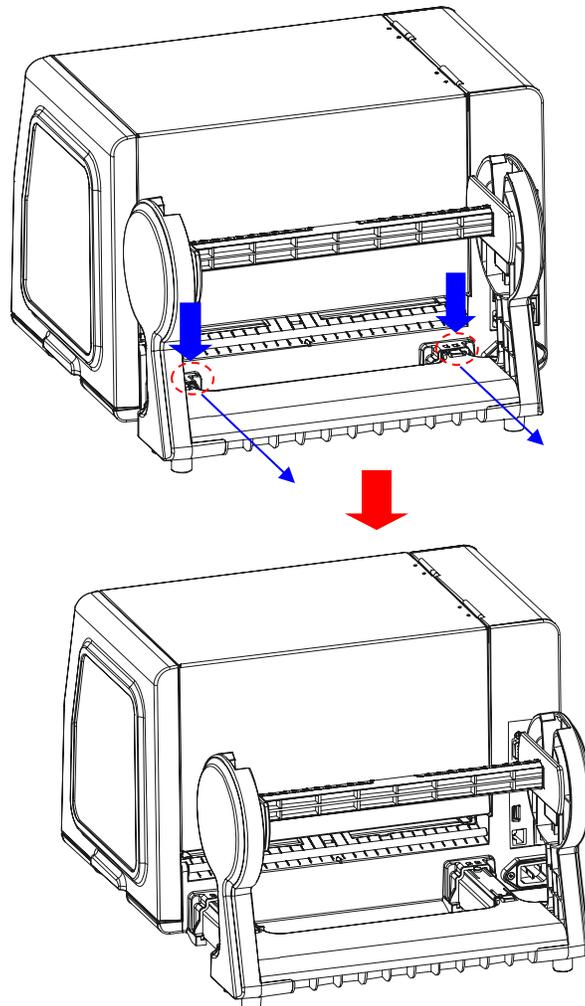

Figure 2-13
1. Press the two buttons at the connecting part between the main frame and the media stand at the same time, and then pull the media stand out, as shown on figure 2-13.